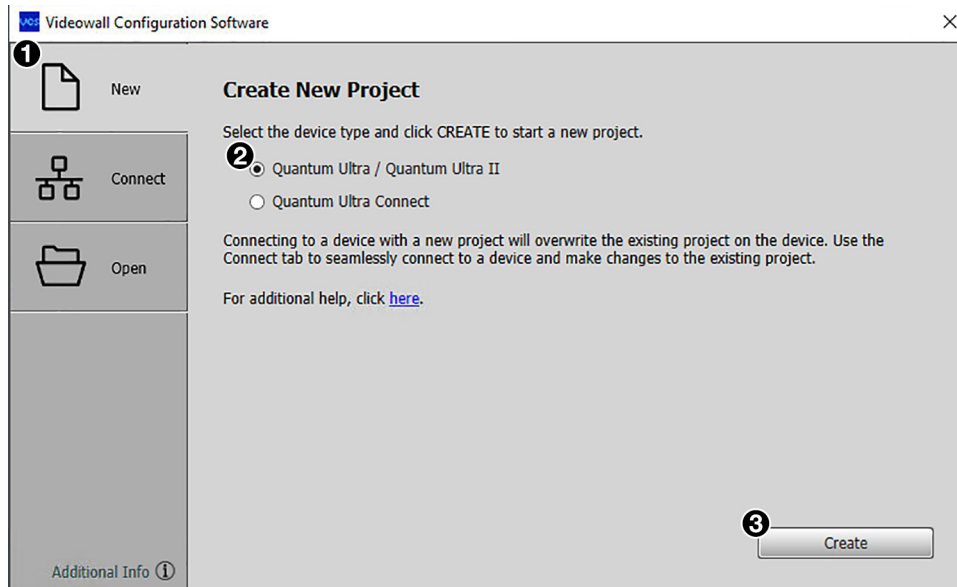

Figure 2. VCS Start Screen, Create New Project Tab
3. Click the **New** tab (1) to open the Create New Project tab (see figure 2).